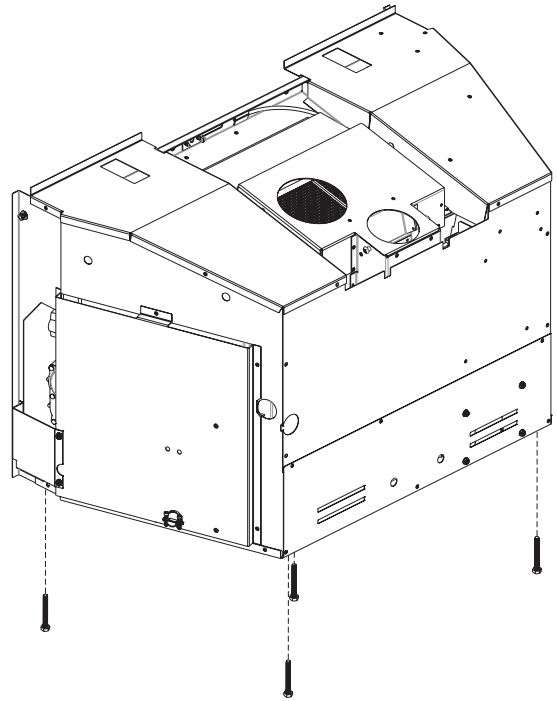

Figure 11
Figure 11 shows the vent termination cap and system approved for use with these models. Approved vent system terminations are labeled for identification. Use 3-inch diameter, flexible aluminum or stainless steel gas venting for the incoming combustion air. Use 4-inch diameter flexible aluminum or stainless steel gas venting for exhaust vent pipe. **No other venting systems or components may be used.** Detailed installation instructions are included with each vent termination kit and should be installed in conjunction with this manual.
NOTICE: The minimum vertical vent rise is 10 feet and the maximum vertical vent rise is 40 feet. These dimensions are measured from the starting collars of the unit to the end of the last section of vent pipe. **See Figure 11**, page 17.
7. Install leveling legs. See Figure 11.